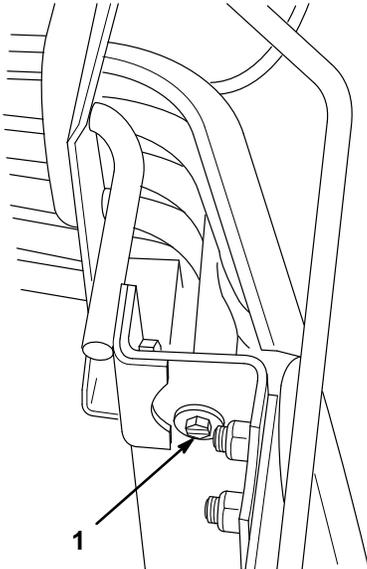

Figure 10
- Remove the tractor's front grill by raising the hood and unscrewing the two screws and washers securing it in place (Fig. 10). Close the hood and remove the grill by pulling it out toward you.
11. Replace the front grill of the tractor, securing it with the two previously removed screws and washers (Fig. 10).